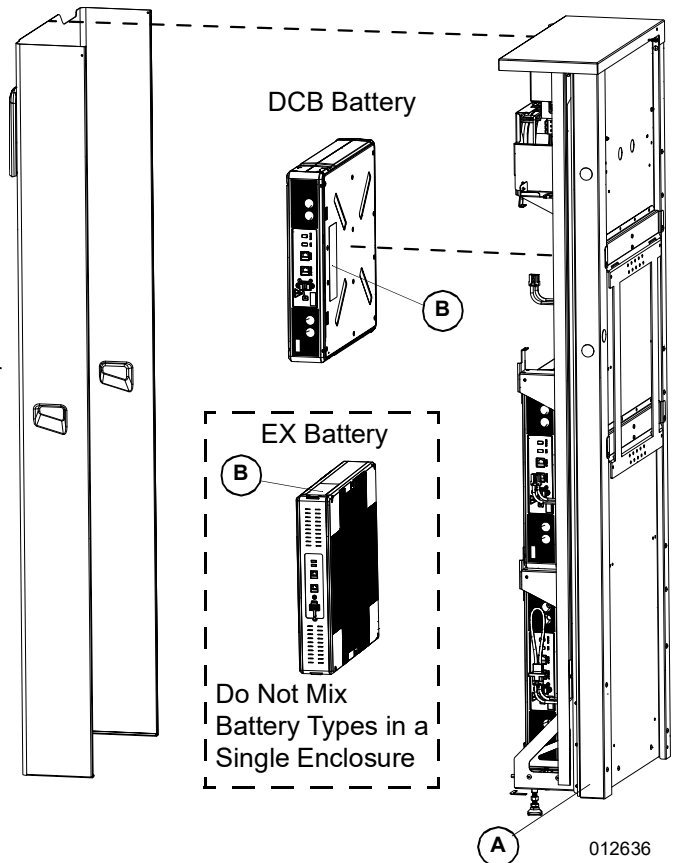

Figure 2-1. Serial Number Location
Refer to **Figure 2-1** to locate serial numbers for the unit (A) and the individual battery modules (B). Record this information in **Table 1: Important Information** on the inside front cover of this manual so it is available if the tags are lost or damaged. When ordering parts or requesting assistance, you may be asked to provide this information.